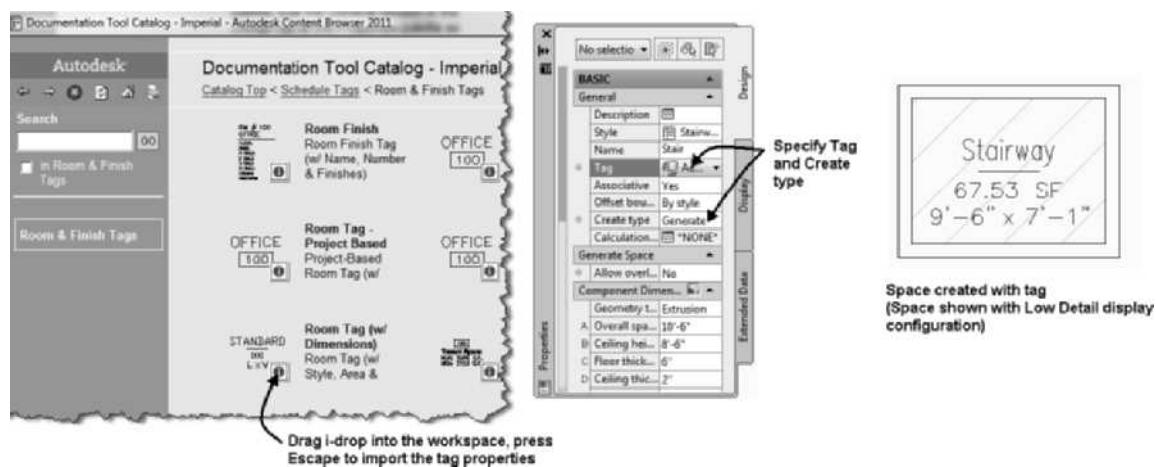

FIGURE 4.6 Importing tags for Space Generate
3. Click and drag the i-drop for a tag—for example, **Room Tag (w/Dimensions)**—into the workspace; you will be prompted to select a space. Press **ESC** to end the command and import the property into the drawing. The **Room Tag (w/Dimensions)** tool imports the **Aec8_Space_Tag [M_Aec8_Space_Tag]** multi-view block as shown in Figure 4.6.
5. Click inside a room defined by walls to specify the space. Space is created and tagged as shown in Figure 4.6.